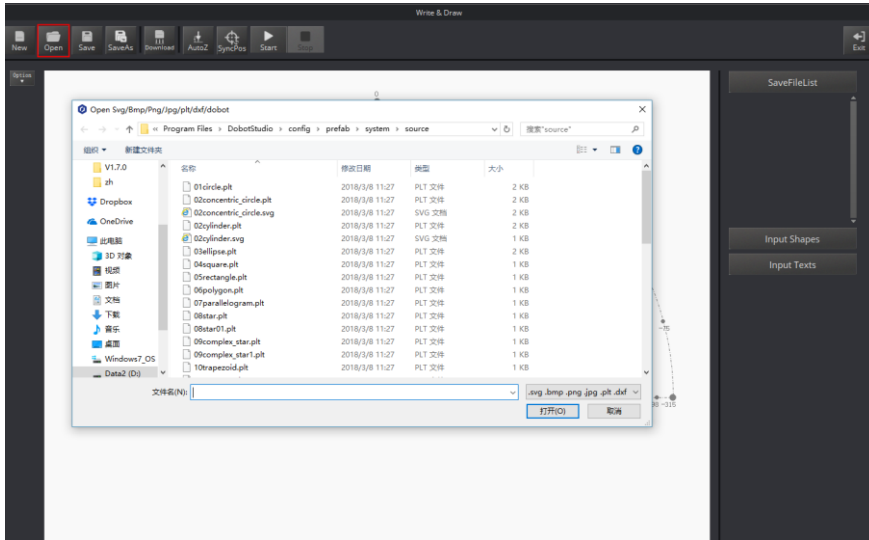

Figure 5.71 Open a PLT or SVG file
- Click **Open** on the **Write & Draw** page to import a built-in PLT or SVG image file from the DobotStudio installation directory *InstallatonDirectory\DobotStudio\config\prefab\system\source*, as shown in Figure 5.71. You can also import your custom PLT or SVG image file.